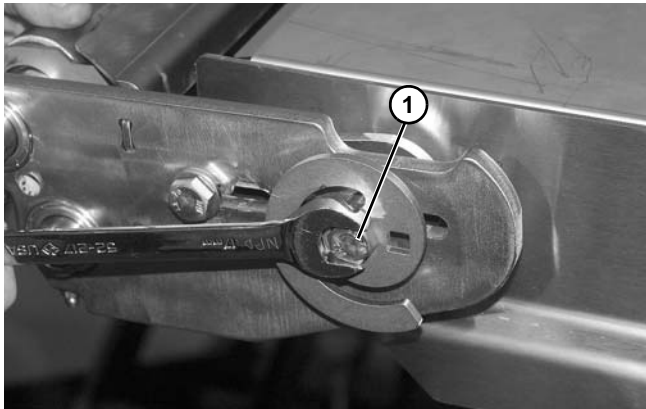

Figure 156
- b. If needed, tighten or loosen screw (**Figure 156, item 1**) on each side to move idler tail up or down to level with conveyor bed rail.